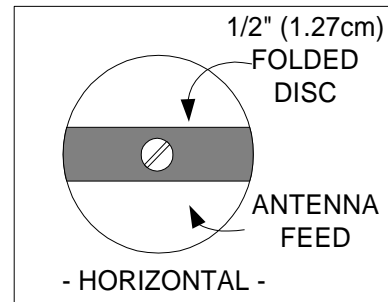

Figure 22
1. Remove six (6) screws securing plastic radome.
3. Install MID-RANGE element (double folded disc) and secure with plastic nylon screw from step #2. Mid-range element can be mounted in the horizontal or vertical position (must be same on Transmitter and Receiver) on the front of the antenna feed as required for optimum detection. (See Figure 22).